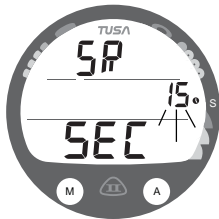

Fig. 32 - SET SAMPLING RATE
**Set Sampling Rate**, information includes (Fig. 32):